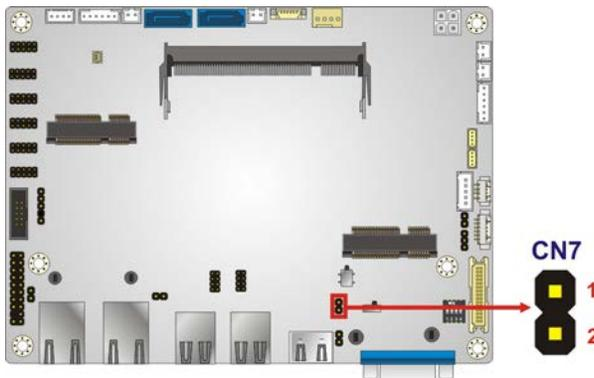

Figure 3-28: SPI Flash Connector Location
3.2.27 SPI Flash Connector (EC)
- CN Location:** See **Figure 3-28**